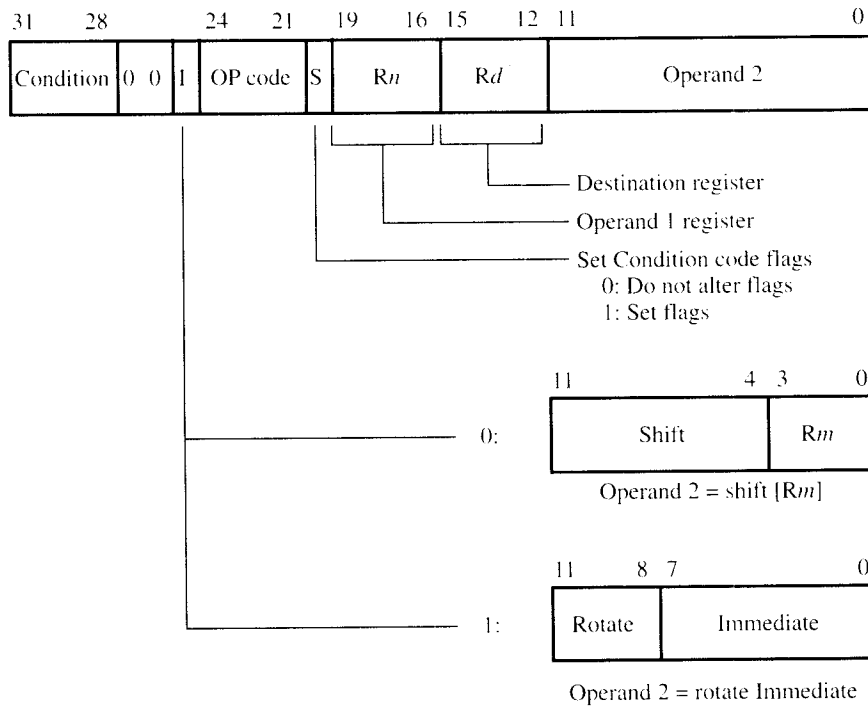

Figure B.2 ARM arithmetic, logic, compare, test, and move instructions.
Arithmetic and logic operations, as well as compare, test, and move operations, are performed by instructions with the format shown in Figure B.2. The first operand is contained in register Rn . The second operand is contained in register Rm or is an unsigned 8-bit immediate operand, as indicated by the I bit. The result of the operation specified by the 4-bit OP code is placed in register Rd . If the S bit is equal to 1, condition code flags are affected by the result; otherwise ($S = 0$), they are not.
- If Operand 2 is an immediate operand ($I = 1$), it can be rotated to the right as indicated in Figure B.2. This option permits a large number of 32-bit values to be generated by rotating the unsigned 8-bit immediate value. The number of rotation positions is $2n$, where n is the 4-bit number contained in bits $b_{11..8}$. Therefore, the range of rotations is an even number of bits from 0 through 30. This feature of the ARM instruction set partly compensates for the lack of 32-bit immediate operands in instructions. It is clear, however, that not all 32-bit values can be generated this way. A short sequence of instructions, including rotations and OR operations, can be used to synthesize 32-bit values that cannot be specified by rotation of a single 8-bit value.